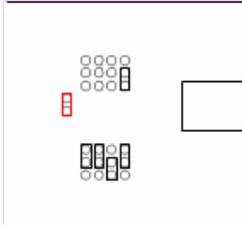

Figure 6: Reset QCA7000
- On the PLC Stamp EVB short QCA7000 RESET pin to GND (index 8, see Figure 6) for one second in order to get a defined state